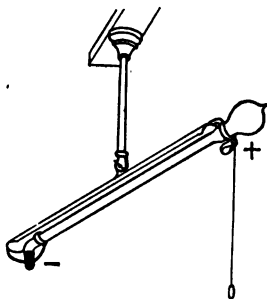

FIG. 211.—MERCURY VAPOR LAMP
**235. Mercury Vapor Lamp.** In this form of lamp, vapor of mercury is made the conductor between the two terminals. It consists of a long glass tube from which the air has been removed (Fig. 211). Through each end a platinum wire is sealed. The lower end consists of a receptacle for mercury. The (+) terminal of the supply is attached to the upper end, and the (—) terminal to the end containing the mercury. When the tube is brought to a horizontal position a thin stream of